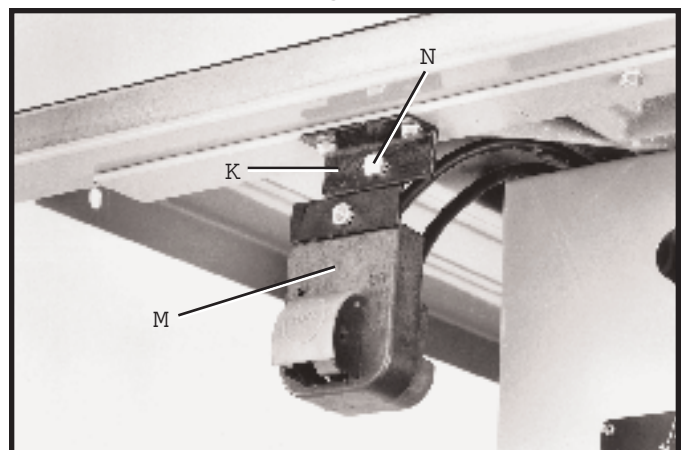

Fig. 23
22. On the Contractor's Saw, attach the switch (M) Fig. 23, to the switch adapter (K) using the 1" long hex screw (N), flat washer, lockwasher and hex nut supplied.